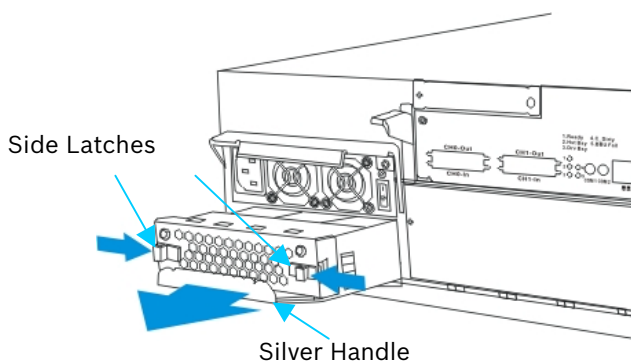

Fig. 6.17 Removing the Cooling Module
1. To remove the cooling module, pull both side latches toward the center of the cooling module. Withdraw the cooling module from the subsystem by gently pulling on the silver handle at the bottom of the module. (See *Figure 6.17*)